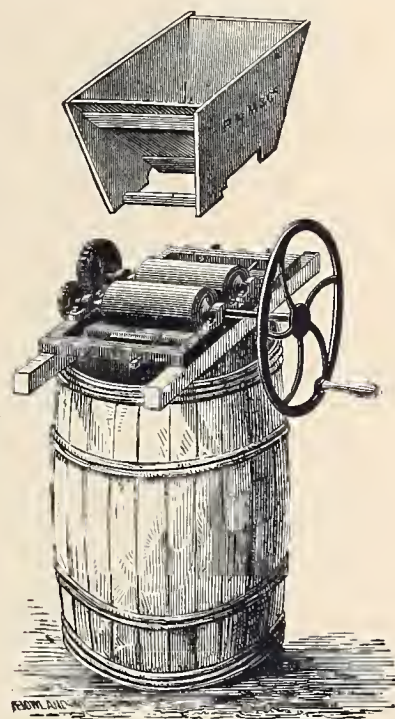

Fig. 417. — Barrel Sugar-Mill.
*The Barrel Sugar-Mill*, represented by *Fig. 417*, is intended to be placed over a barrel, saving the room occupied by the Box MILL. It answers the same purpose, the capacity being less in proportion to size.